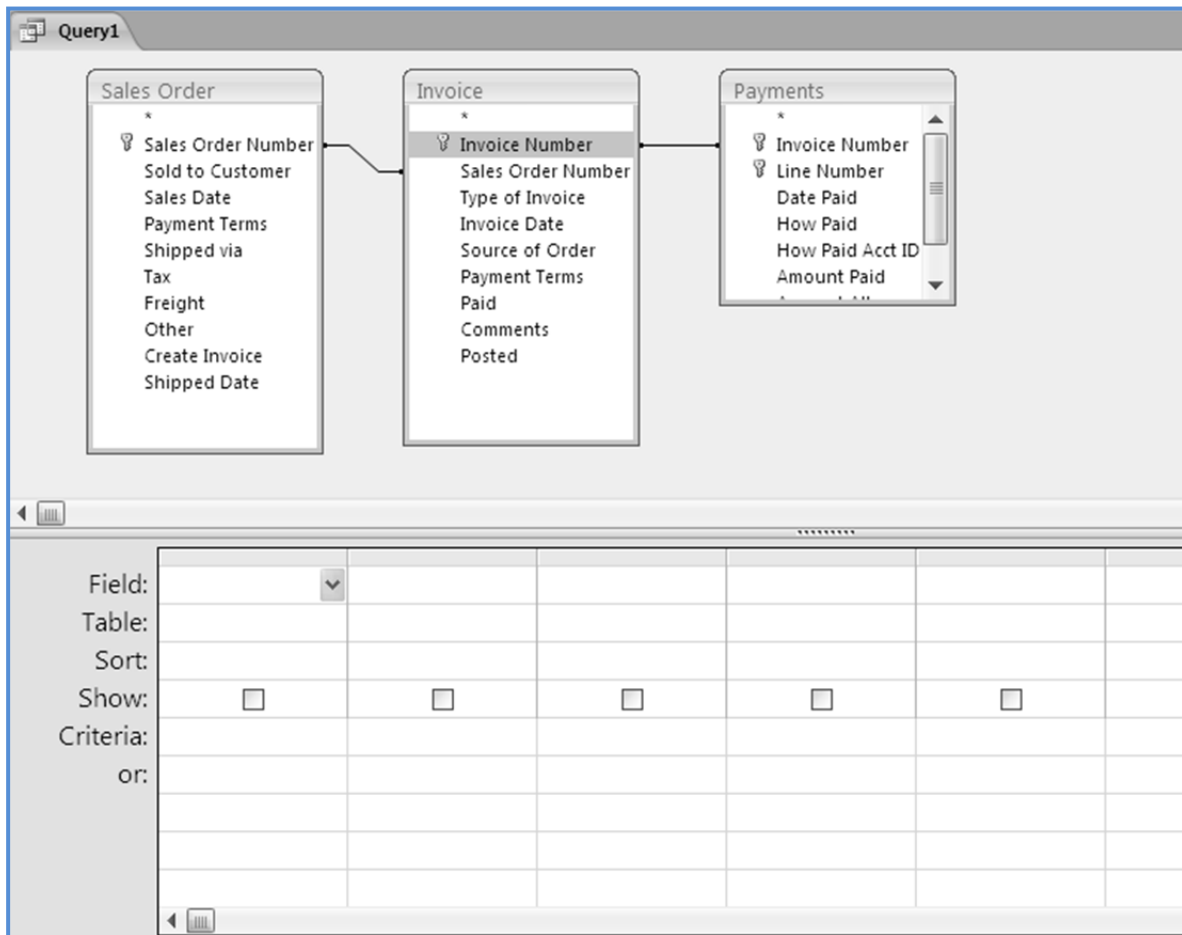

Fig. 1.3.4: Join Tables
3. To join the tables, click the *Sales Order Number* from *Sales Order* table and drag it to the *Sales Order Number* in *Invoice* table. Similarly, join *Invoice* and *Payments* table on *Invoice Number* field. The query window appears as shown in Fig. 1.3.4.